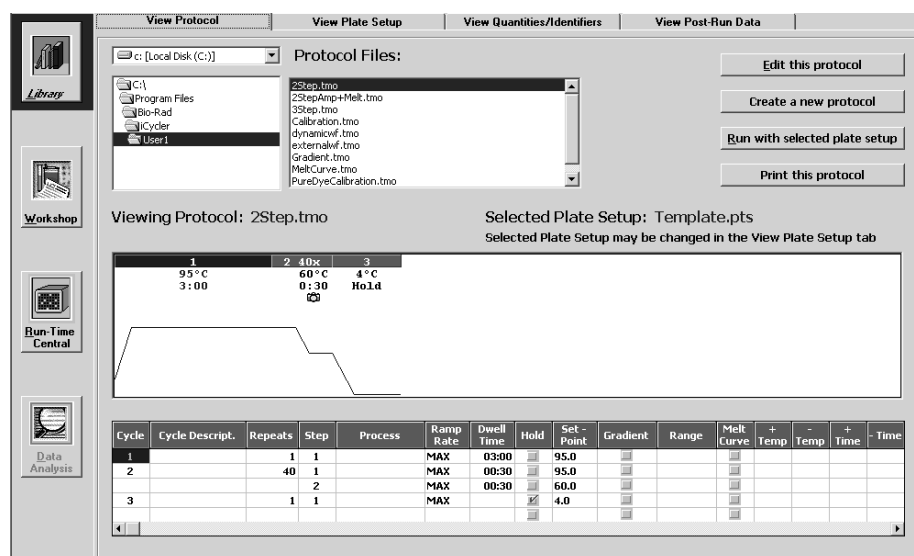

Fig. 4.1. Library / View Protocol Window. This is the default window that appears upon opening the iCycler Program.
- **View Protocol:** Allows navigation of stored protocol files. Provides information on the thermal parameters for the protocol specified and indicates when data will be collected and analyzed (see Figure 4.1).
The **View Protocol** window of the **Library** module is the first window that appears when the iCycler program is opened (see Figure 4.1). In this window, you can navigate the directory of protocol files. When a protocol file name is highlighted in the directory tree, the details of the protocol are displayed in the View Protocol window.
The lower half of the window displays the protocol file identified in the Viewing Protocol field both graphically and in spreadsheet format (see Figure 4.1). The graphical display shows the reaction temperature (on the y-axis) as a function of time (on the x-axis). In the graphical display:
The upper part of the **View Plate Setup** window is similar to the upper part of the **View Protocol** window (compare Figures 4.1 and 4.2.)